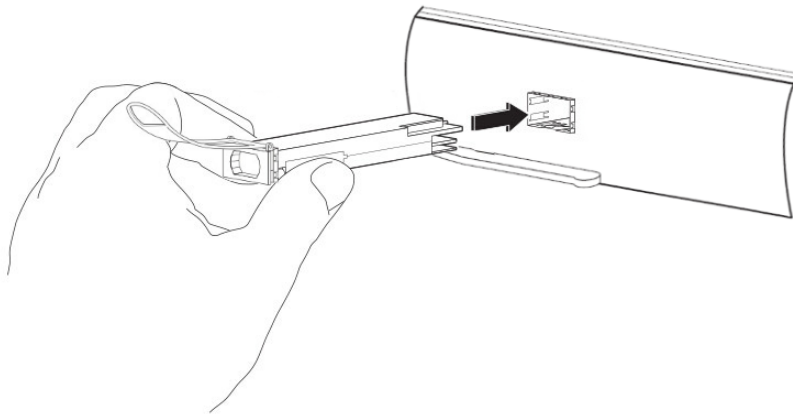

Figure 3 : Installing a QSFP+ Module into a port
4. Align the QSFP+ transceiver in front of the module's transceiver socket opening and carefully slide the QSFP+ transceiver into the socket until the transceiver makes contact with the socket electrical connector, as shown in Figure 3.